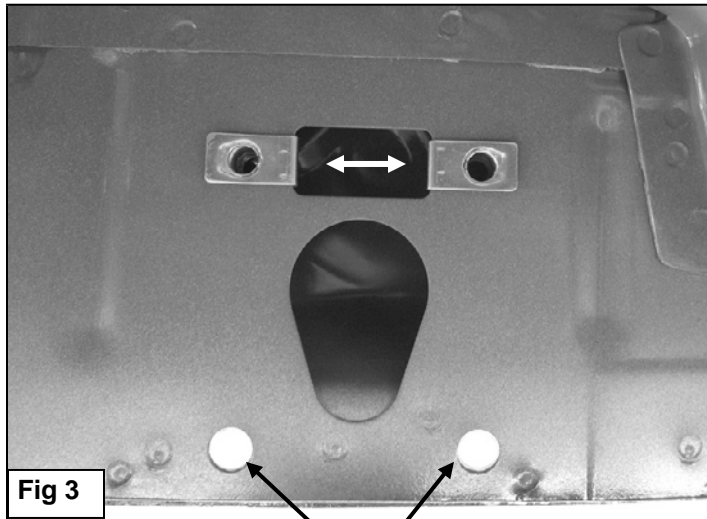

Fig 3
- Select (2) 8mm Clip Nuts. Insert Clip Nuts one at a time into the rectangular opening and slide the threaded hole outward towards the round hole, **(Figure 2)**. Line up the threaded hole in the Clip with the round hole next to the rectangular opening. **NOTE:** Threaded nut must go towards the inside of the side panel, **(Figure 3)**.